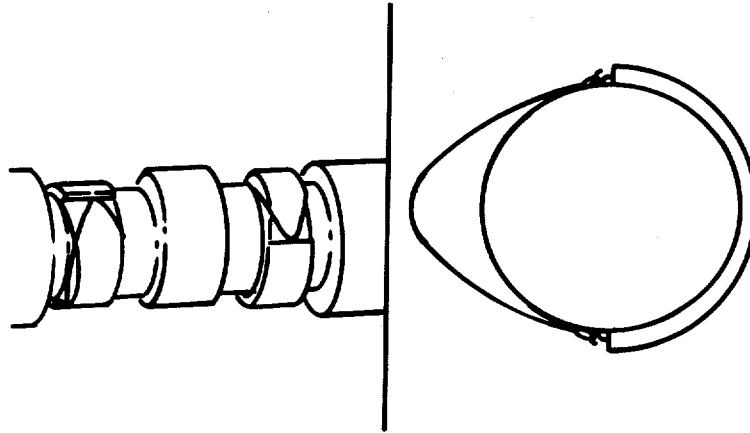

FIGURE 3-19. Camshaft Pilots.
- (1) Install camshaft pilot to the rear of camshaft (9, FIG. 3-19).
- (2) Lubricate the camshaft and bushings with lubriplate.